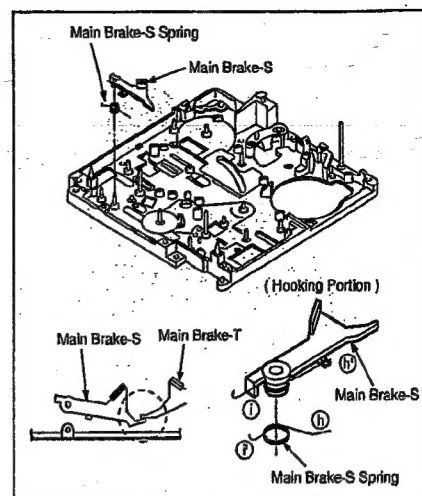

Fig. M18
- Fig. M18 Confirm the hooking portion of the FF Brake Spring.